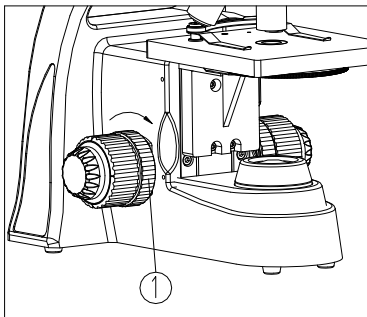

Fig. 10
If the handle is very heavy when focusing or the specimen leaves the focus plane after focusing or the stage declines itself, please adjust the tension adjustment ring ① (see Fig. 10).